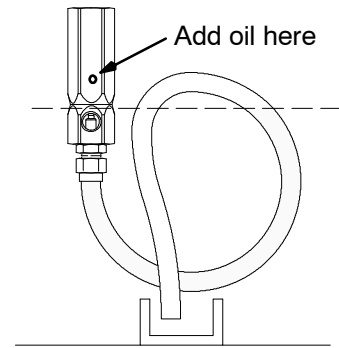

Fig. 1
- For materials that cure when exposed to air, add a loop in the discharge line and fill with compatible oil to prevent the discharge line from plugging after relieving. See Fig. 1. Do not connect the discharge line to the supply container to prevent contamination from the oil. Also add compatible oil to cap through hole to prevent needle/seal from curing in case of fluid seepage.